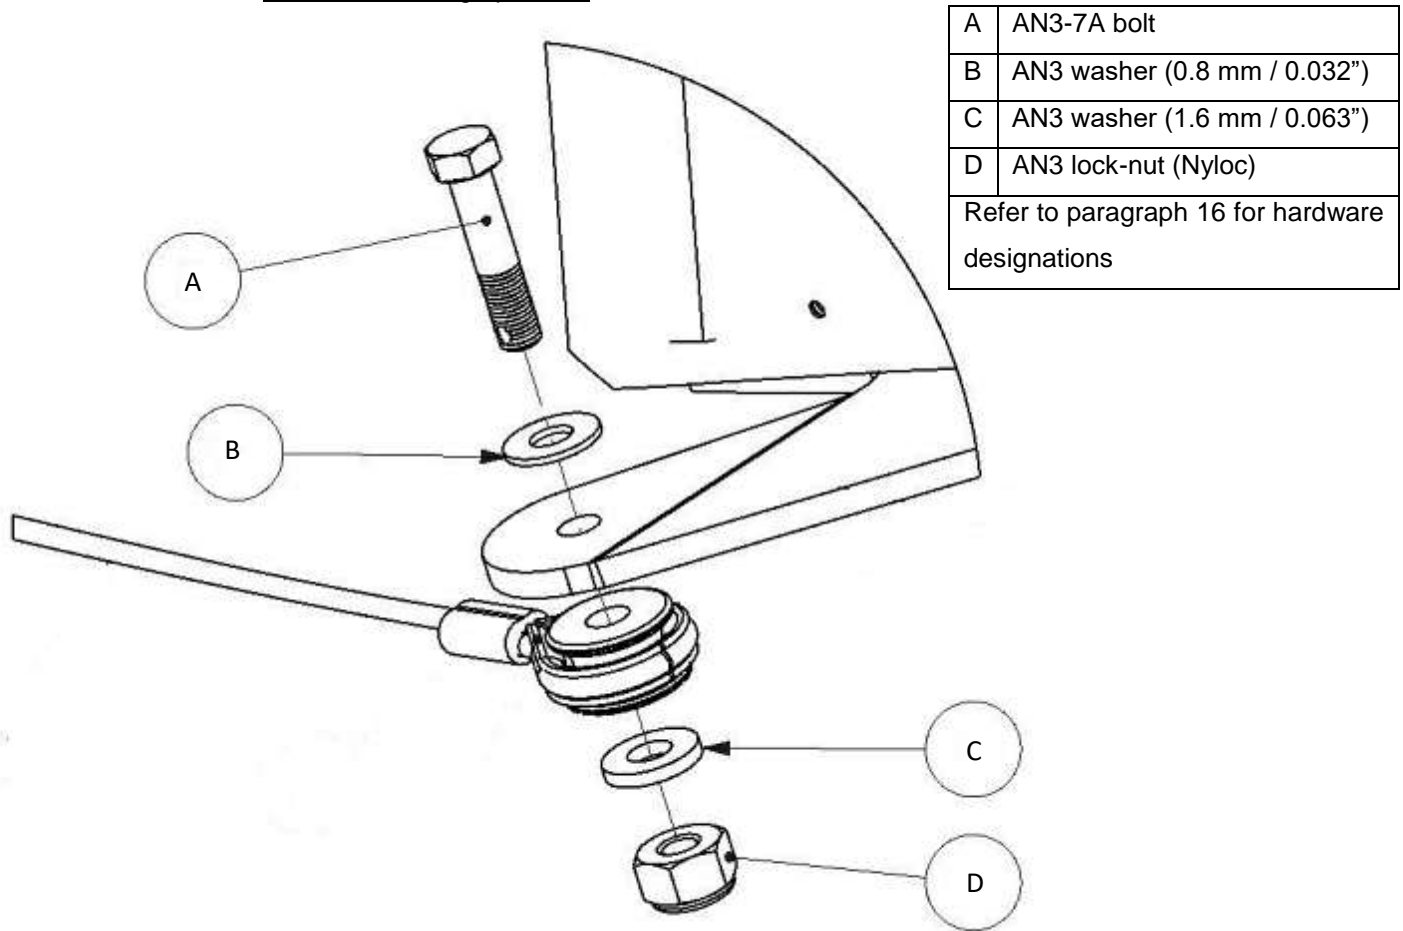

Figure 33: Rudder cable connection.
- Tighten the lock-nuts on the bolts attaching the rudder cables sufficiently, observe the correct placement of washers (refer to Figure 33) and note that the bolts are installed with their heads facing upwards.